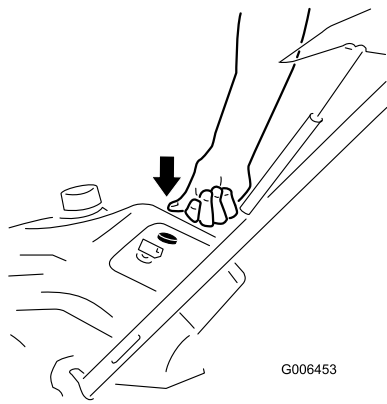

Figure 13
3. Firmly push in the primer with your thumb as indicated by the table below, holding in the primer in for a second before releasing it each time (Figure 13).